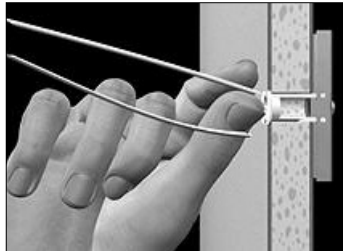

Figure 3
1. Drill 1/2" (13mm) hole. Hold metal channel flat alongside plastic strap and slide channel through hole (Figure 3). Minimum clearance behind wall should be 1 7/8" (48mm).